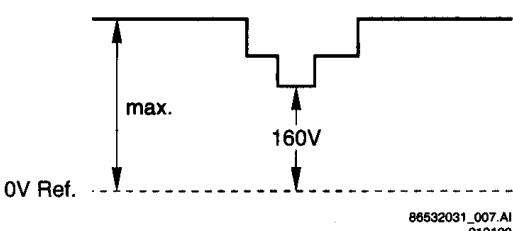

Figure 8-2
3. Connect an oscilloscope (position  $50\text{ V/Div DC}$  and  $2\text{ ms/Div}$ ) alternately to the CRT cathodes (Red pin 8, Green pin 6, Blue pin 11) and measure for each cathode the DC level of the measuring pulse (see elucidation above and figure 8-2) and write down each value. Remark: Trigger the scope external via a CVBS signal (for instance via pin 19 of the SCART1 connection).